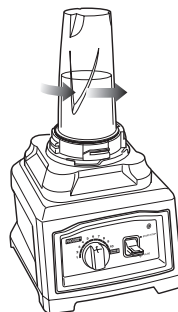
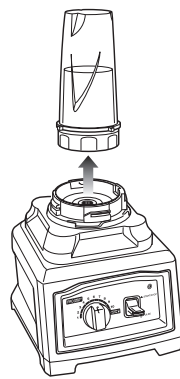

Fig. 12
Fig. 13
- 6 When you have reached your desired consistency, stop the appliance by pressing up on the Start/Stop/Pulse toggle. Then turn the single serve cup counter-clockwise (Fig. 12) and pull straight up to remove. (Fig. 13)